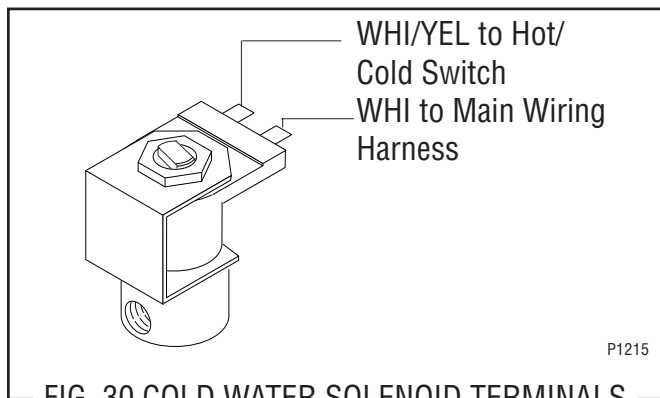

FIG. 30 COLD WATER SOLENOID TERMINALS
10. Refer to Fig. 30 when reconnecting the wires.